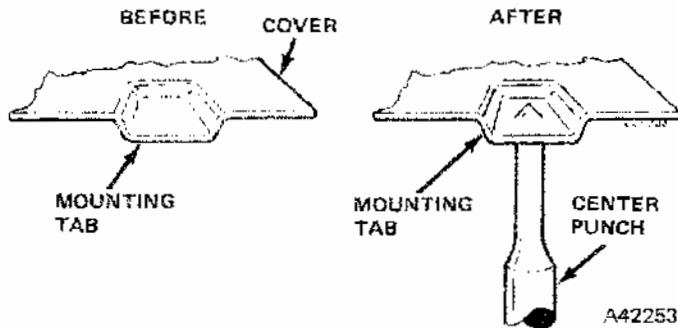

Fig. 3-97 Center Punching Covers
(3) Center punch cover to make good electrical contact with front of case (fig. 3-97).